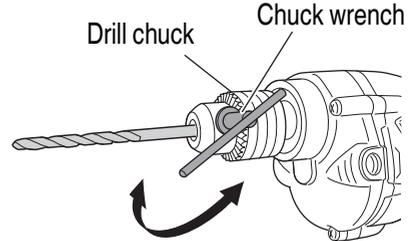

Fig. 1
5. Mounting and dismounting of the bit (Fig. 1)